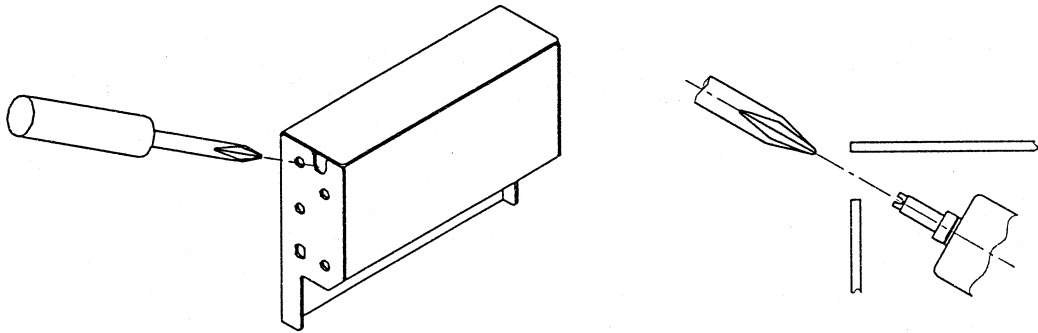

Figure 8-5 Cleaning a Paper Jam (1)
- ① Stop the power to the paper cutter.
- ② When the blade of the paper cutter is locked and is blocking the outlet of the paper, insert a phillips screwdriver through the slot shown in Figure 8-5 and into the screw in the worm gear of the motor axis. Then, turn the screw until blade retreats.